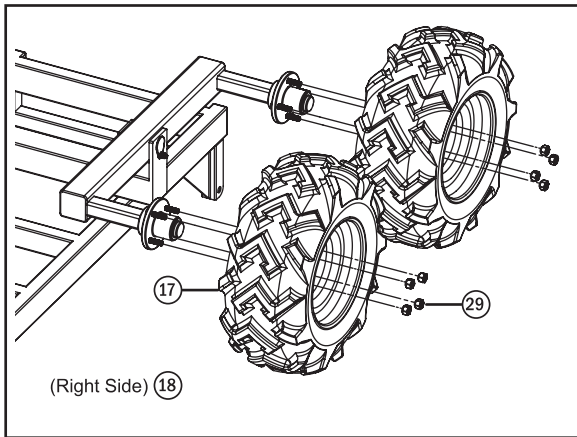

Fig. 4
Step 7: Install the Wheels onto the Trundle Axles. Install the Wheels (17 & 18) onto the Trundle Axles (16) using the Lug Nuts (29). The tires are directional, so it is important to install the wheels on the correct side. Fig. 4 shows the left side tires being installed because the frame is inverted. Use a torque wrench to tighten the Lug Nuts (29) between 75 and 80 ft-lbs (100 and 110 Nm). Repeat this for the wheels on the other Trundle Axle.